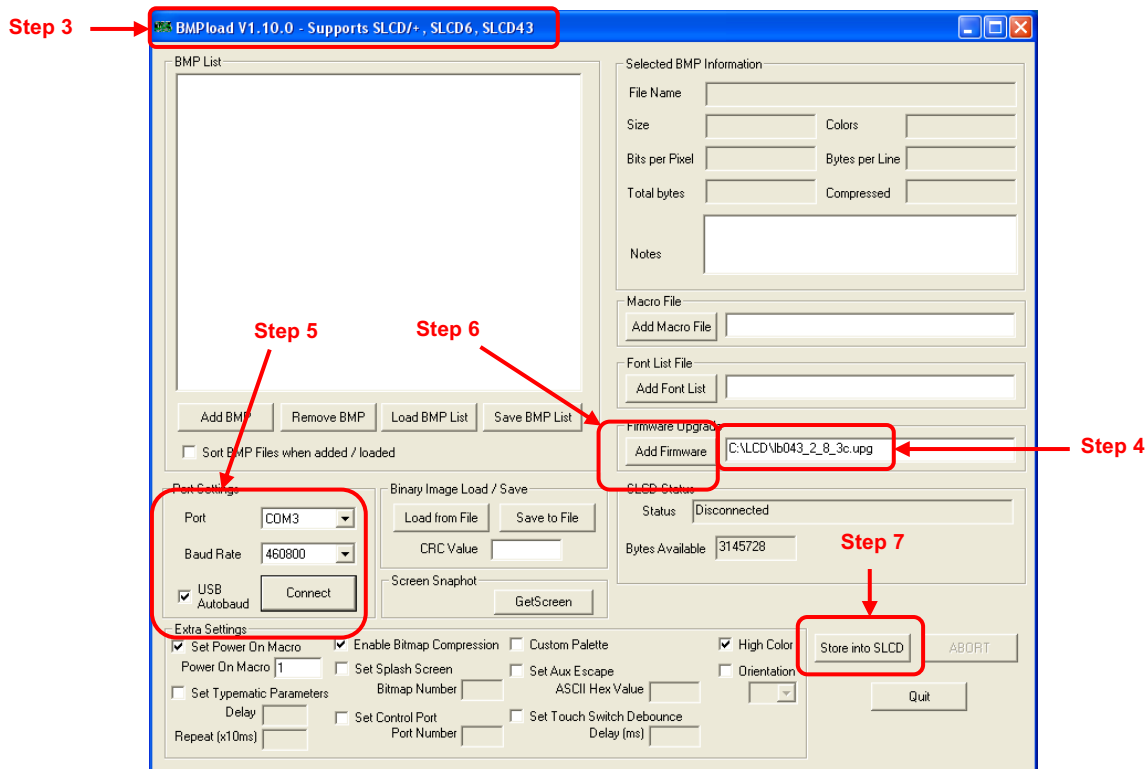

Figure 2-11
Step 3 - The program that is used for installation of new or updated touch screen firmware and software is available on the hard drive of each simulator system in **C:\LCD\BMPlloadxxxx.exe**. Execute the **BMPlload** program. The program will open with the window shown in Figure 2-11. Please make sure the text “**BMPlload Vx.x.x Supports SLCD43**” is displayed in the blue bar of the program as shown. Contact the factory if the text is different.
Step 5 - Set the **Port Settings** as shown in Figure 2-11. Select the **COM3** Port and a **460800** Baud Rate. Select **USB Autobaud** and press **Connect**. If an error appears, try **115,200** Baud Rate.